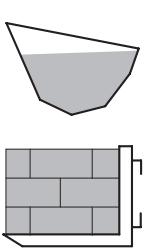

Fig. 1
- The implement's maximum load level must not exceed the lowest wall for bulk loads and not exceed the backplate's height for unit loads (see Fig. 1).